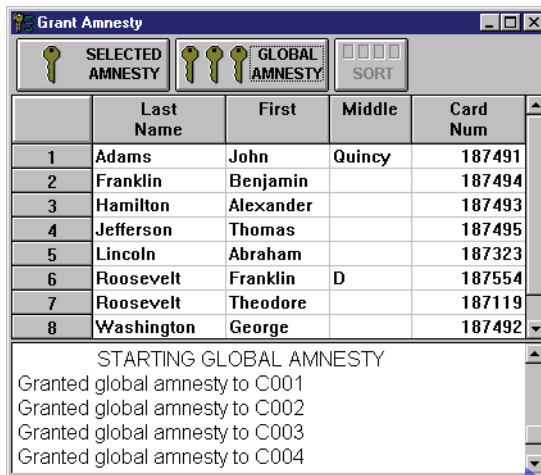

Figure 6-33: Results of Grant Global APB Amnesty
2. The result of the operation is then displayed in a results field at the bottom of the Grant Amnesty window (see Figure 6-33).